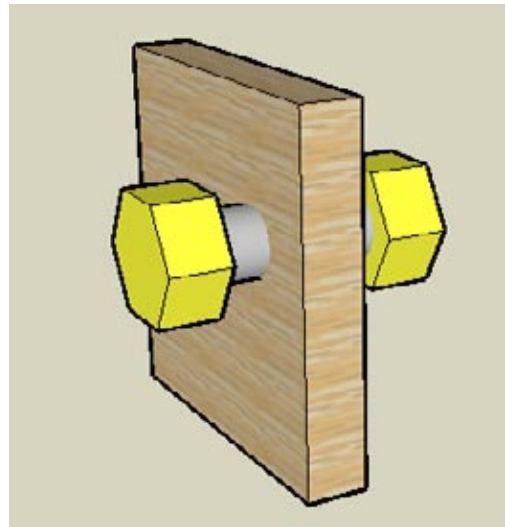

Figure 3-56
A simple doorknob example demonstrates this. The knob and handle shown in Figure 3-56 is a group.
1. Start with the model shown in Figure 3-56 of a door, with a knob made of a cylinder and two pulled-up hexagons. The cylinders protrude slightly into the hexagons, and the entire knob is a group. You can create your model from scratch, or download my Intersect with Context model from the 3D Warehouse.